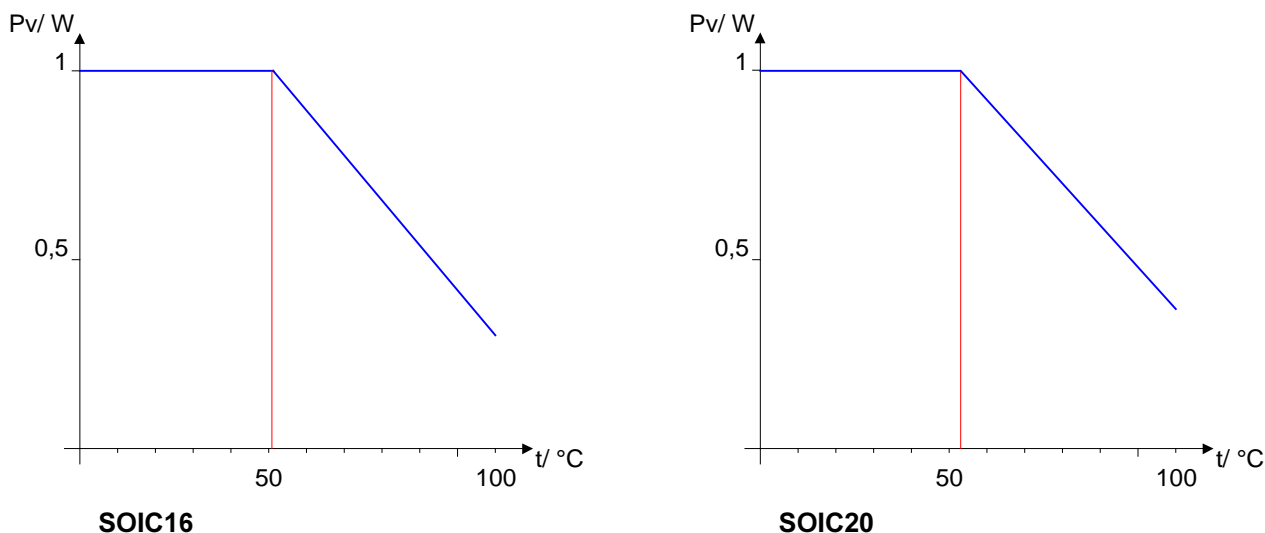

Fig. 1: Max. acceptable power dissipation relative to ambient temperature
- 6 Free convection, see fig. 1
- 3 Power dissipation restrictions as per fig. 1 to be observed